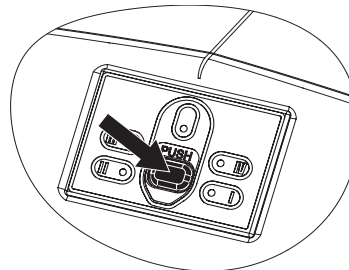

Fig. 13
- On the front panel of your RO-202S (Fig. 13), flash the PUSH button 3 times to start the flushing mode. At this, 5 audible signals sound, the cartridge life indicator lights go out and the flushing mode of the pre-treatment unit starts and lasts 30 minutes.